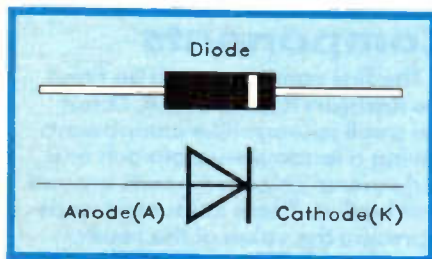

Figure 3. Diode (D1) connections.
b) The next component to be fitted is D1, which is a small tube-like component having a lead at each end of its black body. D1 must be connected the right way round (in other words, D1 is a 'polarised' component). Its 'polarity', which tells us the way in which it must be positioned, is indicated by a white (or silver) band close to one end of the body. D1, its circuit symbol and connections, are shown in Figure 3. The diode should be fitted so that the band lines up with the band on the drawing of the diode on the guide-sheet.